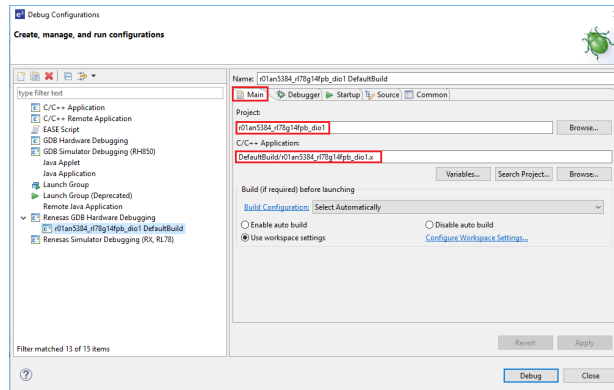

Figure 3.26 "Main" tab settings
Next, confirm that on the "Main" tab, the "Project (P)" is set to the project name (in the case of Figure 3.26, "r01an5384_rl78g14fpb_dio1"), and confirm that the "C/C++ Application" is set to "project name" + ".x".